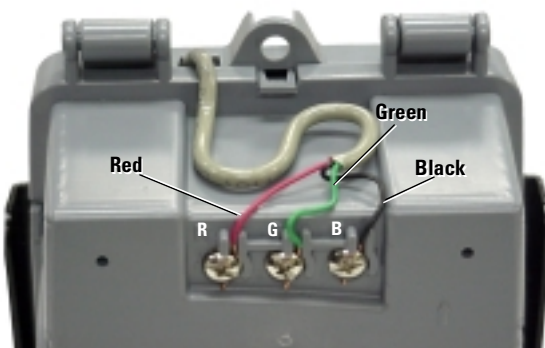

Figure 4 MIU Wire Connections
- 7 Connect each wire to its proper MIU terminal screw, as shown in Figure 4.